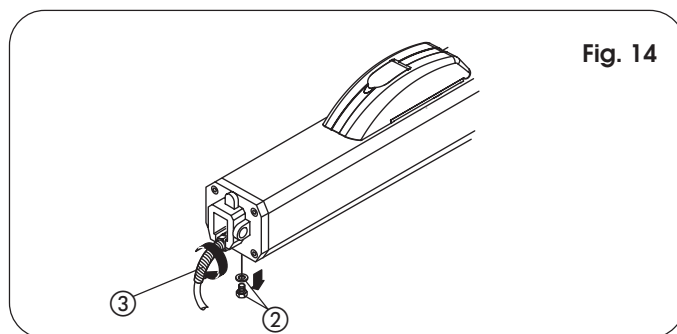

Fig. 14
- A) Insert the two anti-vibration spacers ② onto the front flange.
- B) Introduce the housing, pressing it firmly on the rear cover ①.
- C) Secure the housing with the self-tapping screw ③.
- D) Fit the front cover ⑤ on the housing and fasten it with FIX plug ④.
13) Fit the electric cable bend guard (ref.③, Fig. 14).
- Remove the breather screw (Fig. 14, ref. ②)